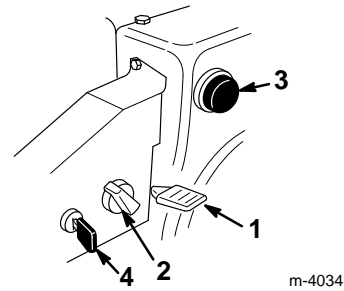

Figure 19
- **Ignition Switch** (Fig. 19)—Insert the key before starting the engine with the recoil starter. To stop the engine, remove the key.
- **Throttle** (Fig. 19)—Move the throttle upward to increase the engine speed and downward to decrease the speed. Move the throttle completely downward to stop the engine.
- **Choke** (Fig. 19)—Rotate the choke to the On position to start a cold engine. As engine warms up, move the choke gradually to the Off position.
- **Primer** (Fig. 19)—Press the primer to pump a small amount of gasoline into the engine for improved cold-weather starting.
3. Pull the choke knob off the choke rod (Fig. 19).
4. Rotate the choke (Fig. 19) to the On position.
5. Insert the ignition key (Fig. 19).
6. Cover the hole in the center of primer (Fig. 19) with your thumb and slowly push the primer three times. **Do not use the primer if the engine has been running or is hot.**
9. After the engine starts, immediately rotate the choke (Fig. 19) to the $3/4$ position. As the engine warms up, rotate the choke to the $1/2$ position. When the engine warms sufficiently, rotate the choke to the Off position.